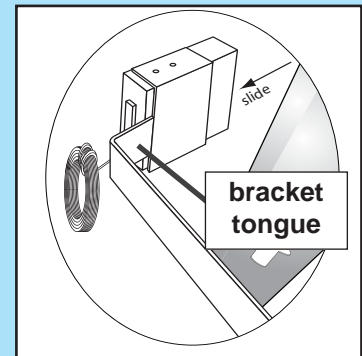

FIG. 4-3 Attach Safe-T-Beam® to brackets
- Slide source/sensor onto tongue of bracket until it clicks into place (Fig. 4-3).